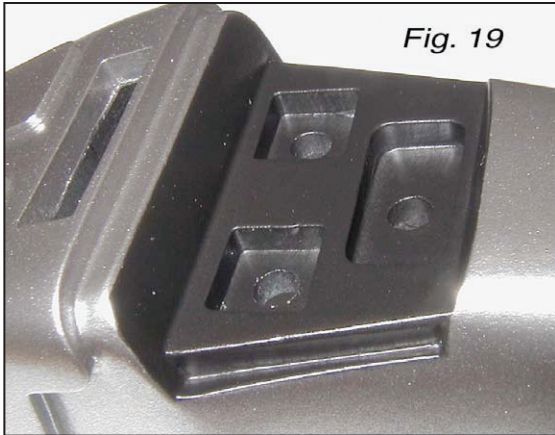

Fig. 19
Step 12: When cured, remove the tape [Fig. 19].